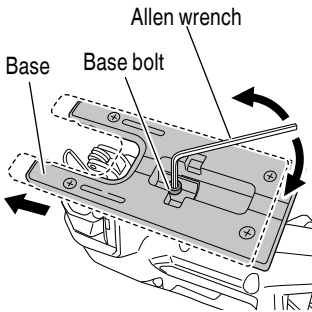

Fig. 25
- (1) Loosen the base bolt allen wrench attached on base. (Fig. 25)
- (2) Move the base fully forward, and tighten the base bolt again. (Fig. 25)
- (3) Set the orbital position to "0".
- (1) Loosen the base bolt by allen wrench attached on base and move the base fully forward. (Fig. 25)
- (3) Tighten the base bolt again. (Fig. 25)
- (4) Set the orbital position to "0" - "III".